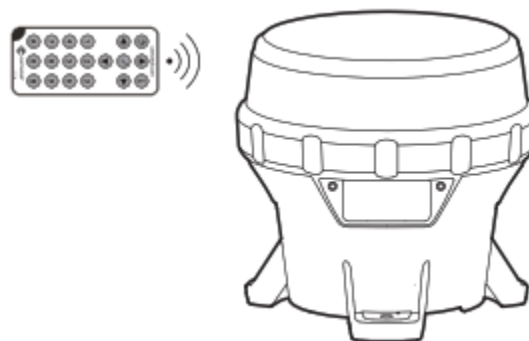

Figure 45. Carmanah M650H Beacon with IR Remote (Source ER [02])
- v. Point the IR Remote at the side of the M650H lens and then press the **Start** button on the IR Remote (Figure 45). The main LED flashes once.